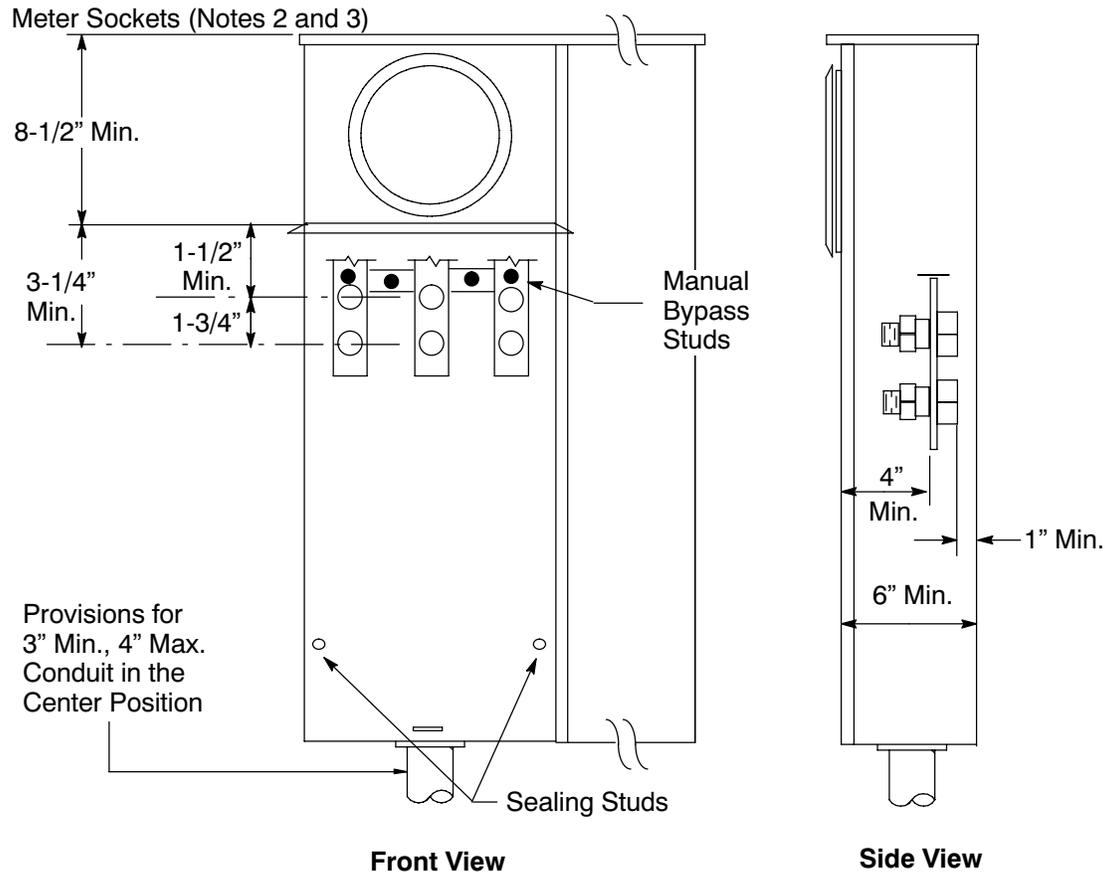

Figure 7-2
1. When planning a single-phase, 120/240-volt service, applicants must furnish, install, own, and maintain service-termination and meter-mounting devices, as illustrated in Figure 7-2, “Meter and Service-Termination Enclosure, Combination Meter-Socket Panel for a Class 320 Meter (Residential/Commercial, 120/240-Volt, Single Phase, 226-Ampere Through 320-Ampere Service),” on Page 7-4.
Notes in reference to Figure 7-2.